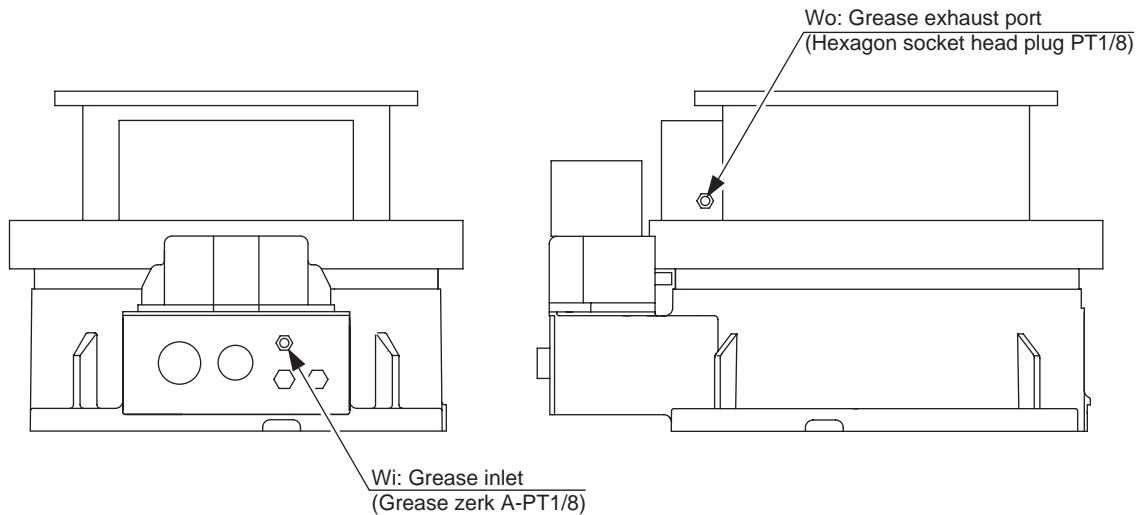

Fig. 20 Speed Reducer Diagram
■ Grease Replenishment (Refer to " Fig. 20 Speed Reducer Diagram ".)
■ Grease Exchange (Refer to " Fig. 20 Speed Reducer Diagram ".)